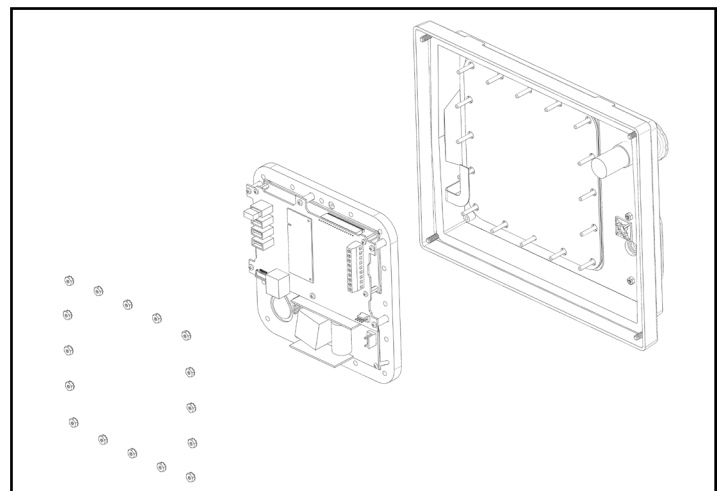

Figure 33.3: Removing backplate (keypad still in position)
3. Remove the backplate with its connected circuit board and hardware [Figure 33.3]